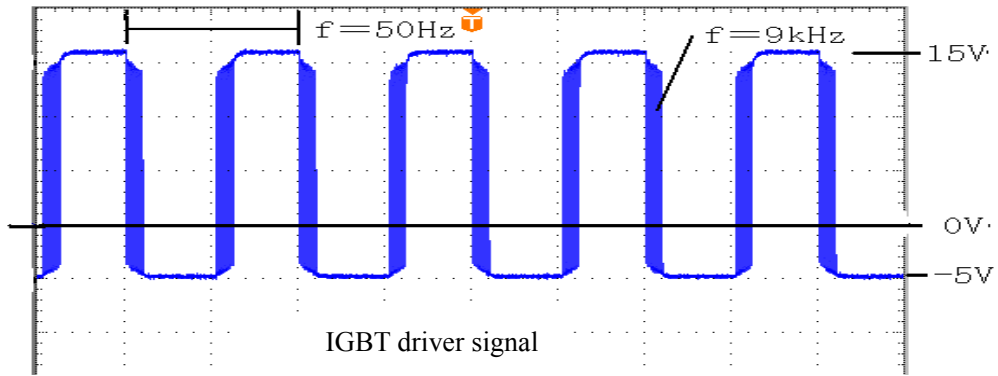

Figure 5-16 Inverter driver board SPWM driver signal
E. Test inverter driver board four SPWM driver signal between each G and E with a oscillograph, as shown in figure 5-16, It can be tested with a multimeter, the value is $10.8 \pm 0.2V_{ac}$, $5.2 \pm 0.2V_{DC}$.